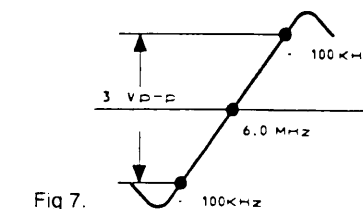

Fig 7.
- 2: Adjust T103 so sound carrier is centred as in Fig. 7.
- 3: Confirm the waveform as in Fig. 7.